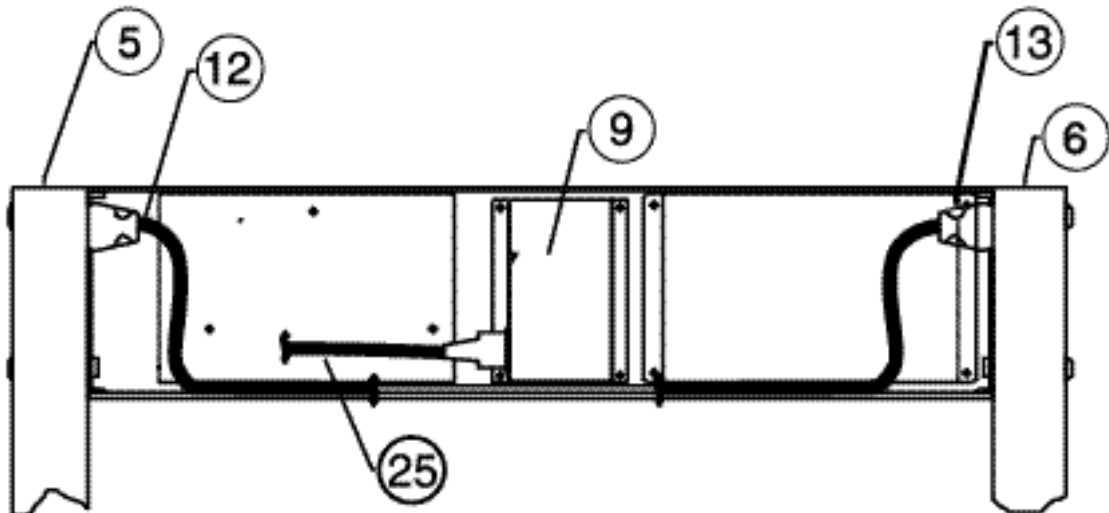

Figure 10-2
2. Open access door of detection unit. (See Figure 10-2.)